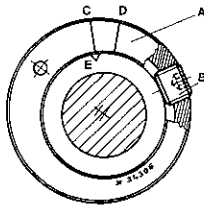
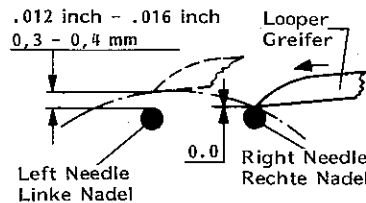

Fig.71
Fig.72
After loosening the eccentric set screw (B, Fig.71) the eccentric (A) can be turned within the area of C and D to obtain a distance of 0,3 - 0,4 mm (.012 - .016 in.) (Fig.72) between the left needle and looper point, when the looper moves from right to left. This adjustment is made at the factory.